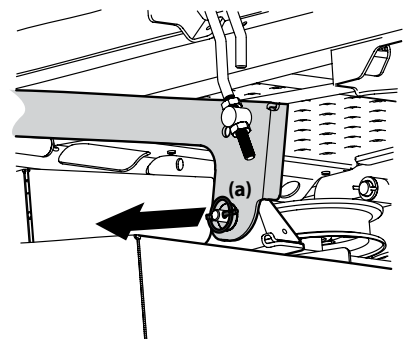

Figure 4-19
- Locate the LH and RH deck release pins (a) on each side of the deck. Pull the release pins outward and release the deck from the LH and RH deck lift arms. See Figure 4-19.
- Pull the deck release pins outward and maneuver the deck as necessary to align the holes in the deck lift arms with the pins. Refer to Figure 4-19.